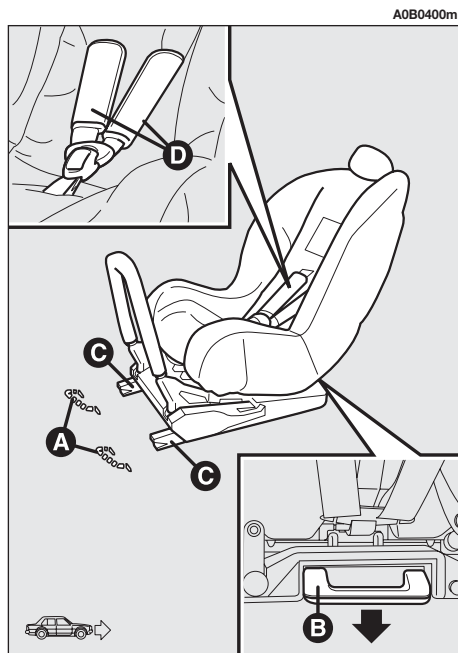

fig. 61
For children of the **0, 0+** weight group, the child's seat is facing backwards (babies up to 13 kg) and the child is restrained by the child's seat belts (**D**-fig. 61).
- check whether the release lever (**B**-fig. 61) is at rest position (inward)